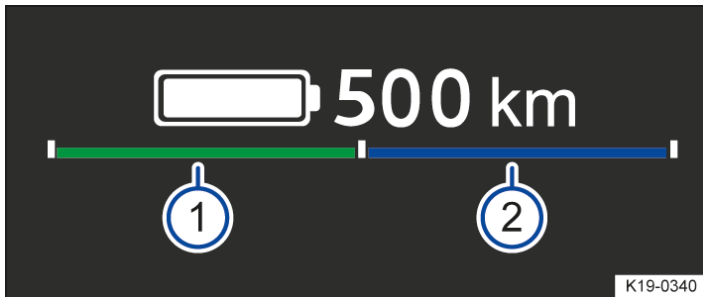

Fig. 1 In the digital instrument cluster: power display (illustration).
Using the bar divided in the middle, the power display continuously shows the availability of brake energy recuperation → Fig. 1 (1) in green to the left and traction → Fig. 1 (2) in blue to the right. The availability is unrestricted when the respective bar reaches the end marking. The bar is shown shortened in each case if availability is restricted.